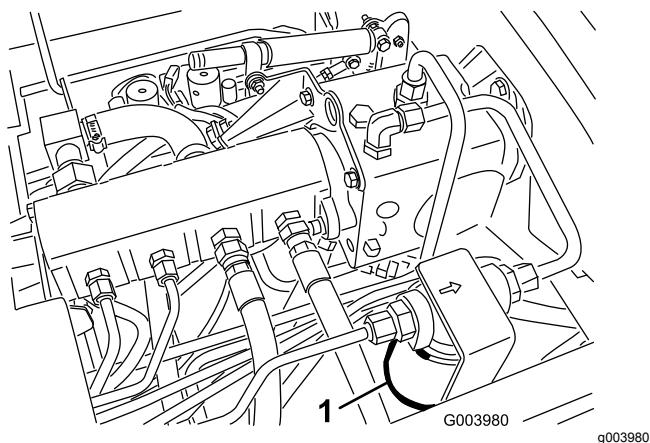
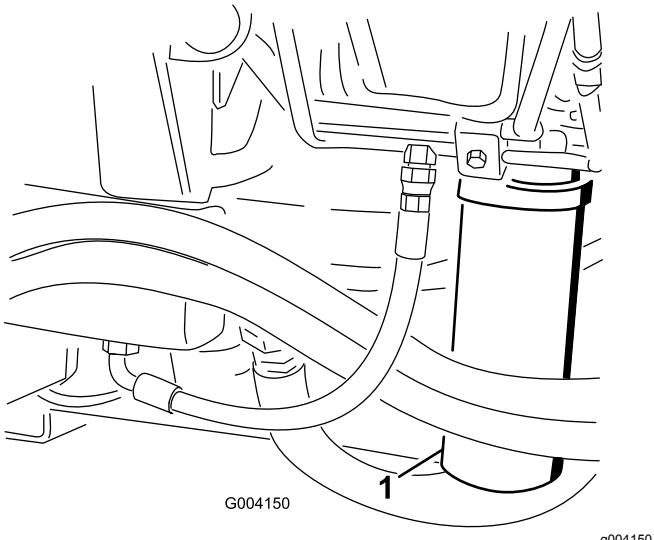

Figure 67
Figure 68
2. Clean the area around the filter mounting area and place a drain pan under filter (Figure 67 and Figure 68).